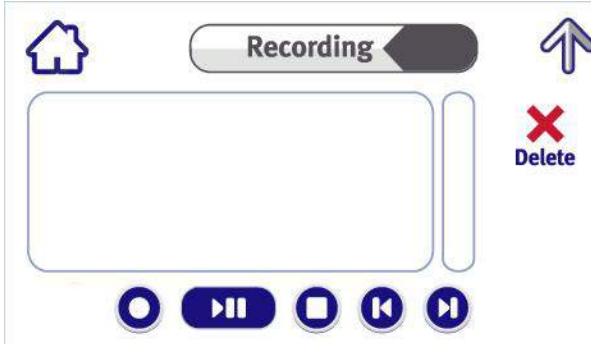

FIGURE 4-4: RECORDING SCREEN
2. Press **Recording**. The Recording screen (Figure 4-4) appears.